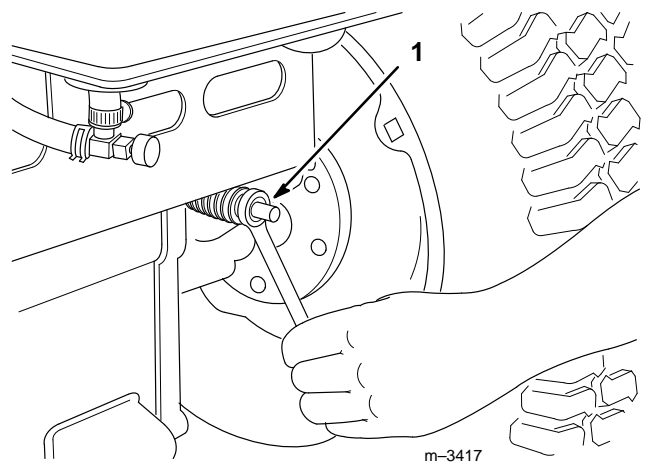

Figure 41
The brake adjustment is at the rear of the tractor (Fig. 41). If the parking brake does not hold securely, an adjustment is required.
4. Turn the brake adjustment nut (Fig. 41) until there is 2” (51 mm) of free travel.